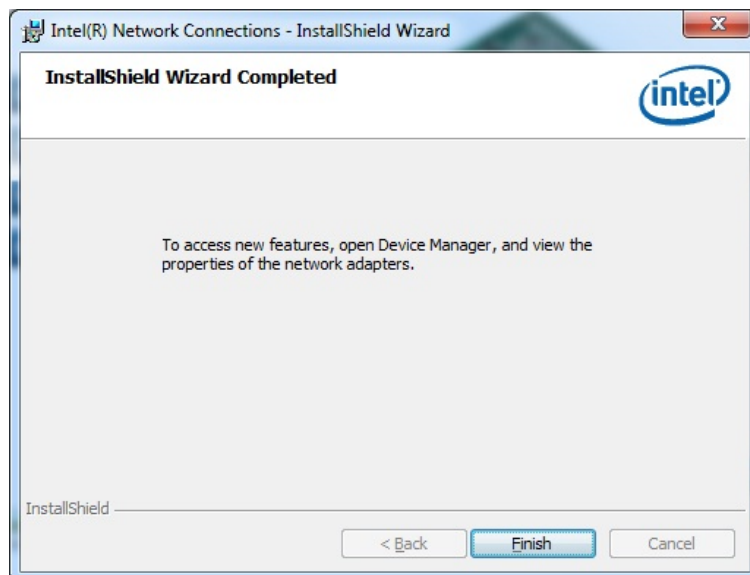

Figure 6-16: LAN Driver Installation Complete
Step 18: When the driver installation is complete, the screen in **Figure 6-16** appears.